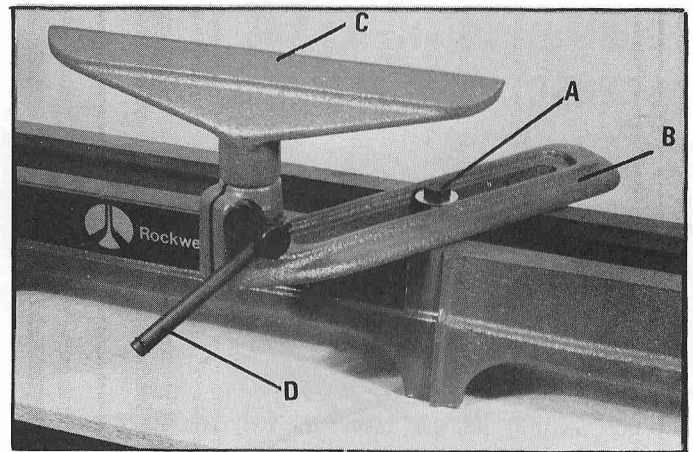

Fig. 23
To move the tool rest support along the lathe bed, loosen bolt (A) Fig. 23, and slide tool rest support (B) to the desired position on the bed. When in position, tighten bolt (A).
For most normal lathe operations, the tool rest (C) Fig. 23, should be positioned about 1/8" away from the work and 1/8" above the work centerline. This position can be varied to suit the work and the operator. To adjust the height of the tool rest (C) loosen lock lever (D) and position tool rest to the desired height. Then tighten lock lever (D).